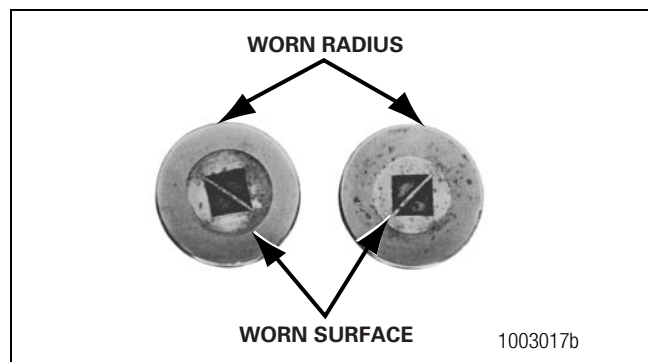

Figure 4.2
- The center of the large-diameter end of the rollers is worn level with or below the outer surface. Figure 4.2.
- The radius at the large-diameter end of the rollers is worn to a sharp edge. Figure 4.2.